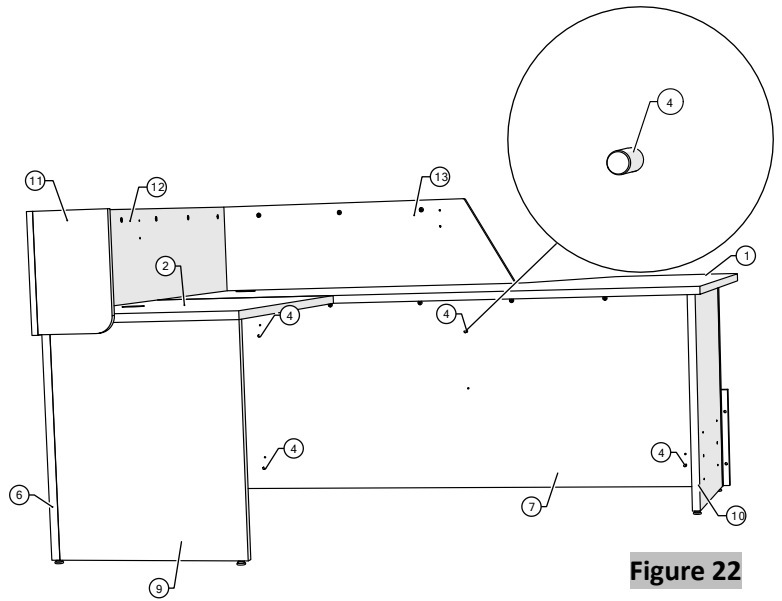

Figure 22
25. Push the wooden dowels in with a wooden dowel and rubber mallet to hold the angled reception countertop modesty front (Figure 22).